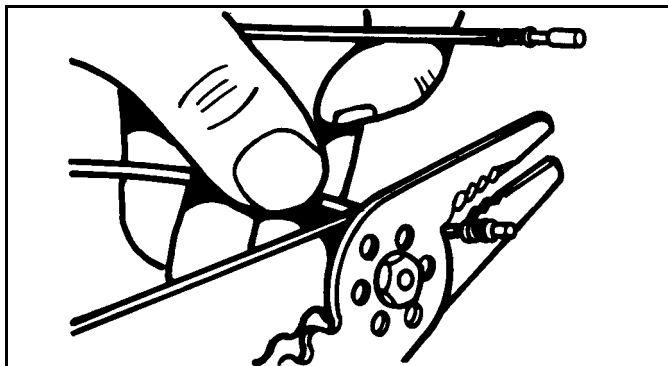

Figure 1-9
2. Use universal electrical pliers to remove wire as close as possible to old contact. (See Figure 1-9)